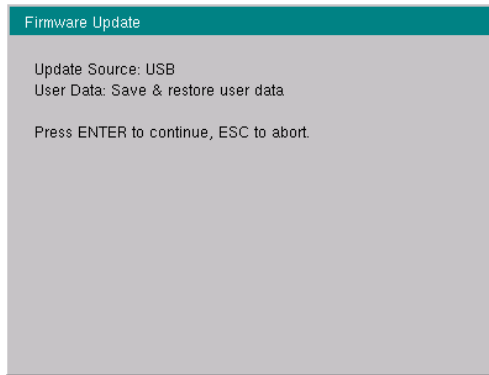

Figure 6-8. Firmware Update Menu
7. The Firmware Update dialog will query you to confirm the process by pressing **Enter** to continue or **Esc** to abort (Figure 6-8).